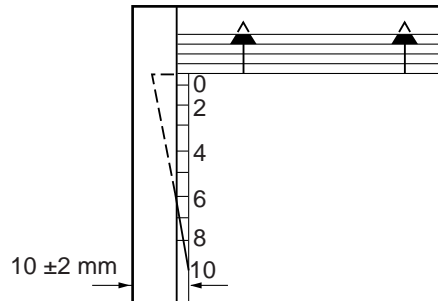

Figure 10-206
- 2) Wind the lens cable around the lens pulley as shown in Figure 10-206, and secure it with the two fixing screws.